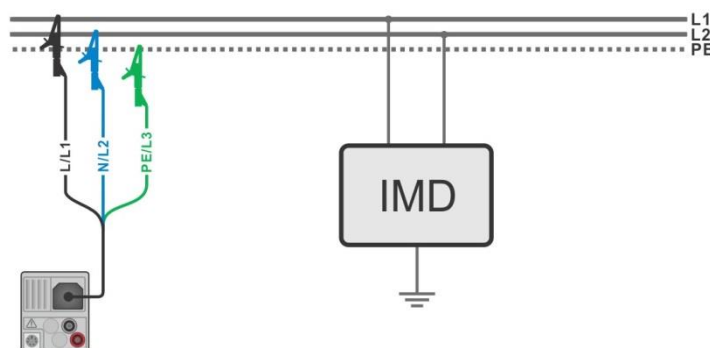
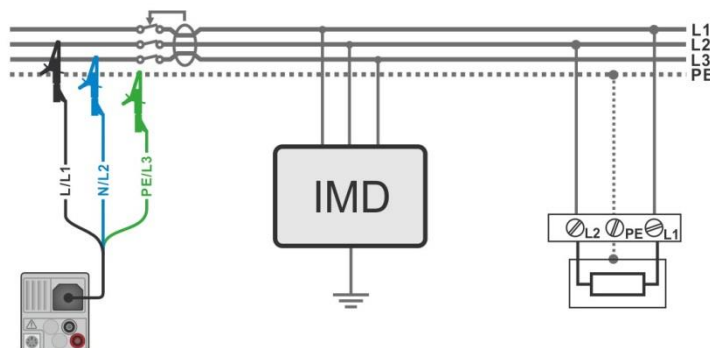

Figure 7.72: Measurement of highest First fault leakage current with 3-wire test lead
Figure 7.73: Measurement of First fault leakage current for RCD protected circuit with 3-wire test lead
- › Connect test leads to the object under test, see **Figure 7.72** and **Figure 7.73**.